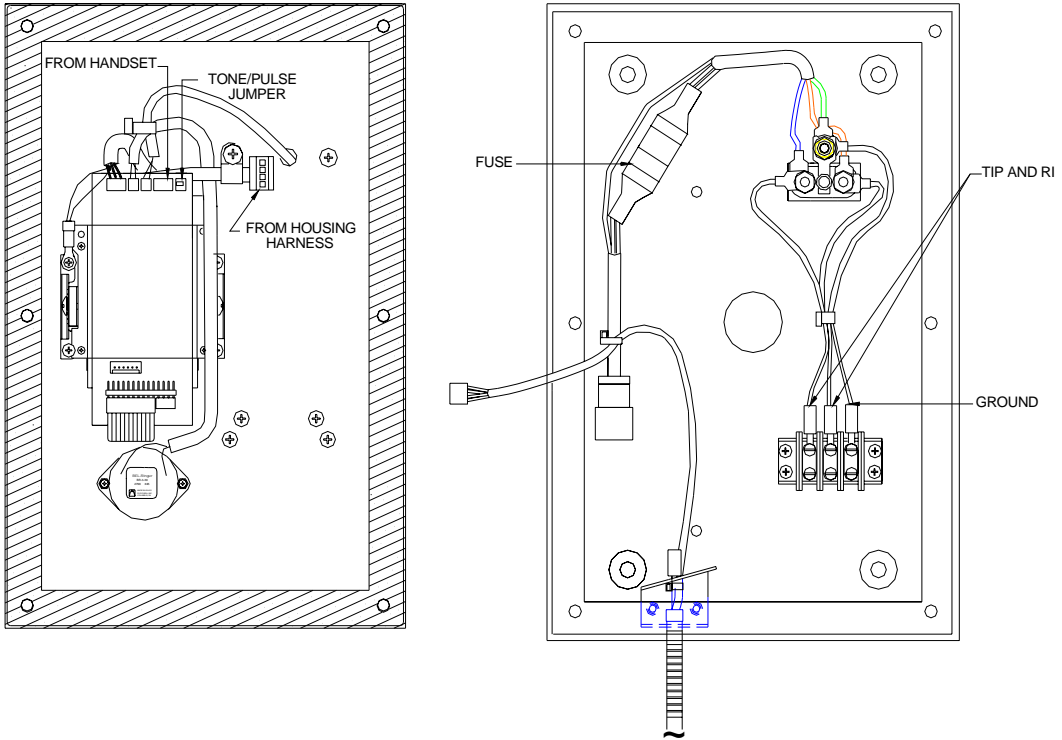

Figure 4 - Electrical Connections
**See:** Figure 4 - Electrical Connections.
**See:** Figure 4 - Electrical Connections